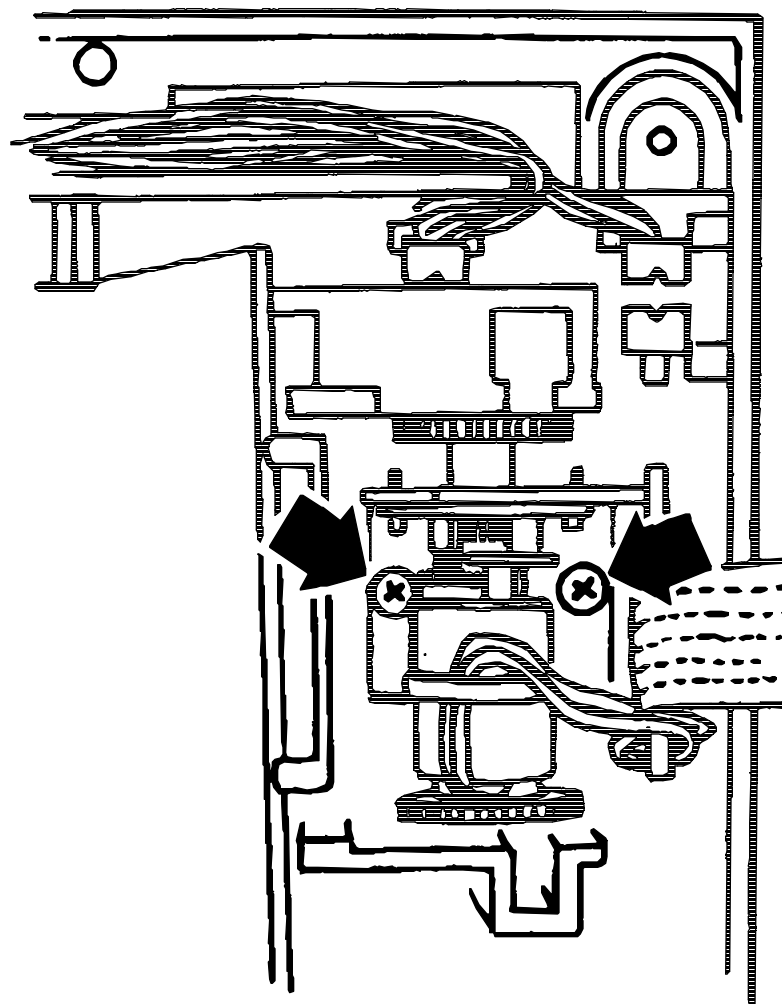

Figure 4-22 Removing Screws from Motor Drive Bracket
- 15.1 Remove two screws from bottom of Bracket. (If both screws are not visible, move Mirror Carrier out of the way: rotate gear train by turning gear near Motor with finger.) (Fig. 4-22)